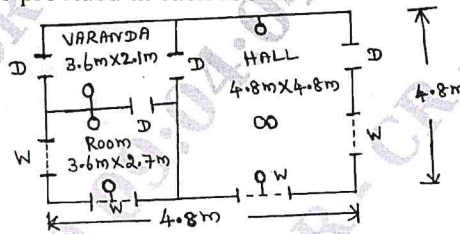

Fig. Q3 (c)
- c. Draw the electrical circuit and estimate the quantity of material required for the wiring system. Chosen in a house plan shown in Fig. Q3 (c). The height of ceiling as 3.6 m and one plug point (60 W) has to be provided in each room. (12 Marks)